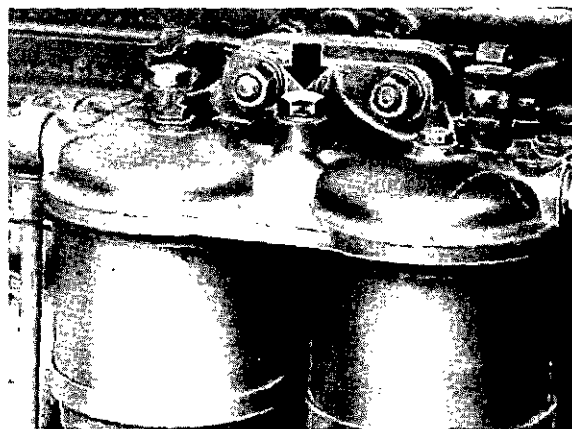

Fig. 22 Fuel filter vent screw
1. Loosen the vent screw, if fitted, on the top of the fuel filter(s) (see fig. 22). If a single element filter is used, loosen the banjo connection bolt which is fitted on the top of the filter.